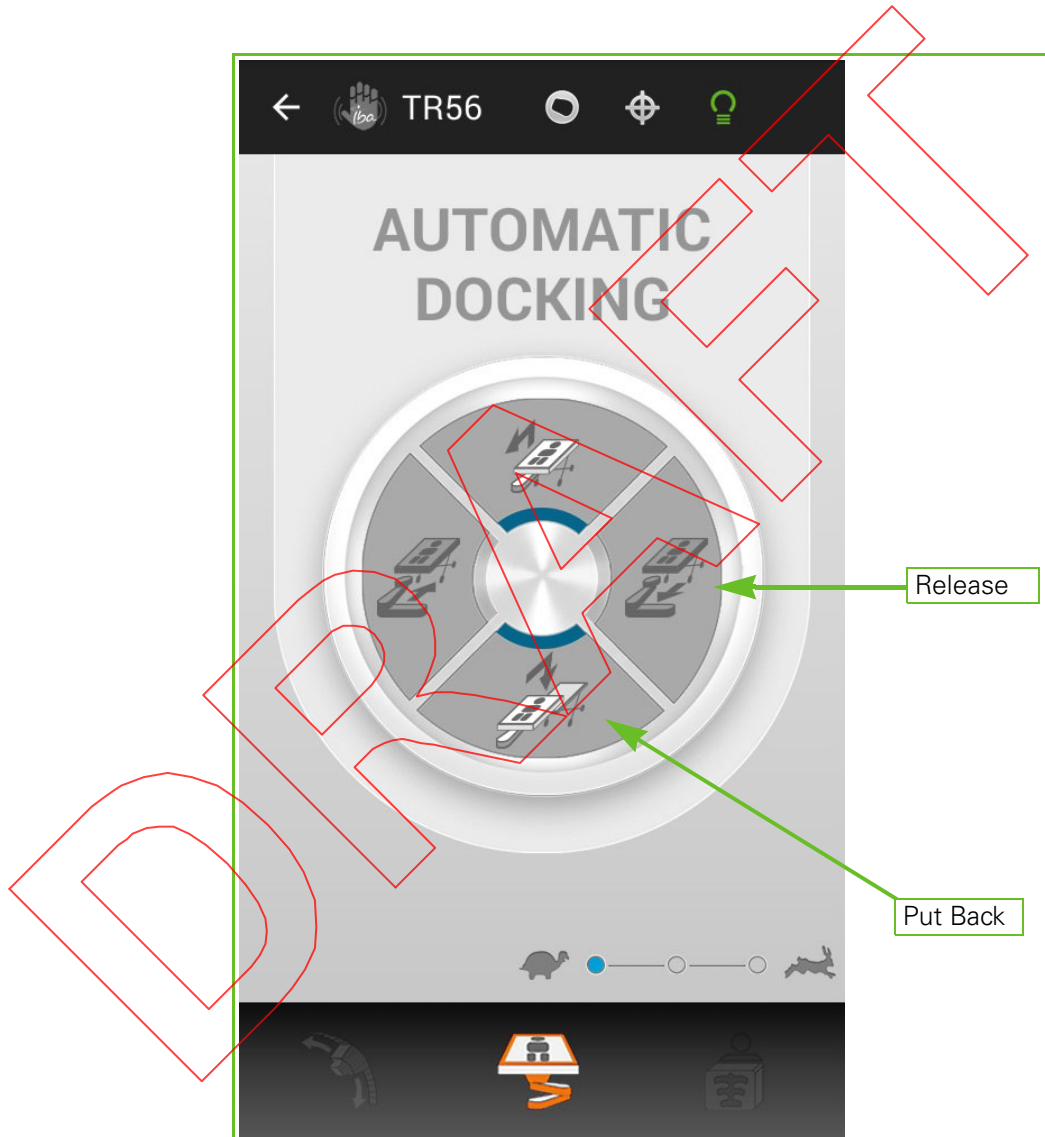

Figure 13-14. Automatic Docking Screen
3. Click the **Put Back** icon from the AUTOMATIC DOCKING SCREEN (see Figure 13-14).